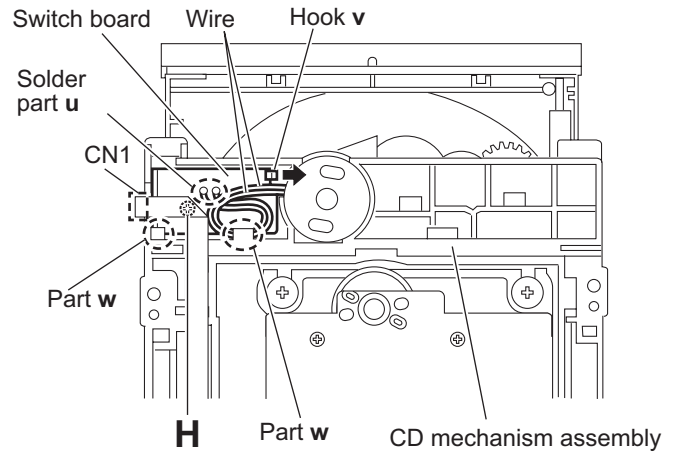

Fig.14
3.2.8 Removing the switch board (See Fig.14)
3.2.9 Removing the motor (See Fig.14 and 15)
After motor attached to CD mechanism assembly, wire should hook to part **w**. (See Fig.14)